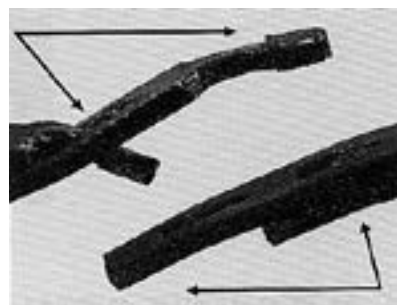

FIGURE 28. Measuring the V-Belt
- Pull belt tight around sheaves to check hand tight length, overlapping the last two tabs with two holes in matching links as shown in **FIGURE 28**.